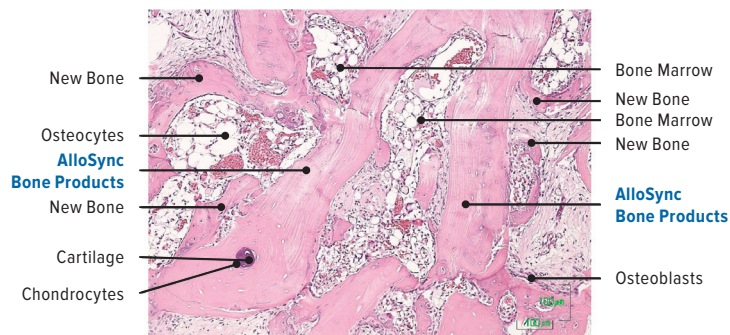

Figure 4. Shows AlloSync sponge histology with all five components of bone growth.
- › After 28 days, the following findings were observed within the AlloSync demineralized sponge group (Figure 4):